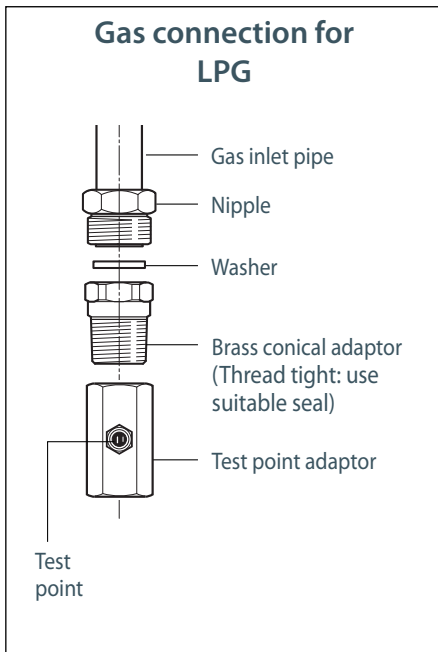

Fig. 21 LPG connection
- For LPG, connect the gas supply to the test point adaptor which is supplied with the appliance (Fig.21). Ensure that the supply pressure is regulated to 2.75 kPa.